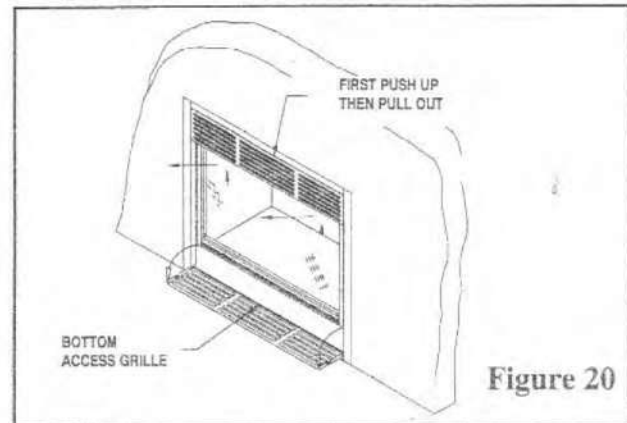

Figure 20
The appliances bottom grille opens for installation and gas cutoff access. See Figure 20 for correct positioning and operation of the appliances lower grille.
1. Remove the upper grill by lifting it up and pulling it towards you. Refer to Figure 20.
2. Open the lower grill by lifting it up, then swing the bottom grill around the lower pins. Refer to Figure 20.